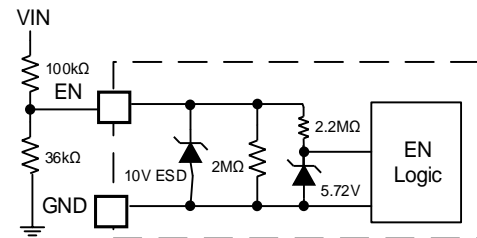

Figure 4: 10V Zener Diode Connection
The MPQ4272 offers enable (EN) control. The EN pin has two levels with different thresholds. At the first level, $EN > 0.7V$, and VCC is enabled. At the second level, $EN > 1.6V$, and the chip begins normal operation. EN is clamped internally using a 10V series Zener diode (see Figure 4). Use two resistor dividers to connect the EN pin to the V_{IN} supply and to GND. The EN rising threshold is 1.6V, so V_{IN} must exceed 6.05V to enable the circuit. Do not add a capacitor above 1nF on the EN pin.